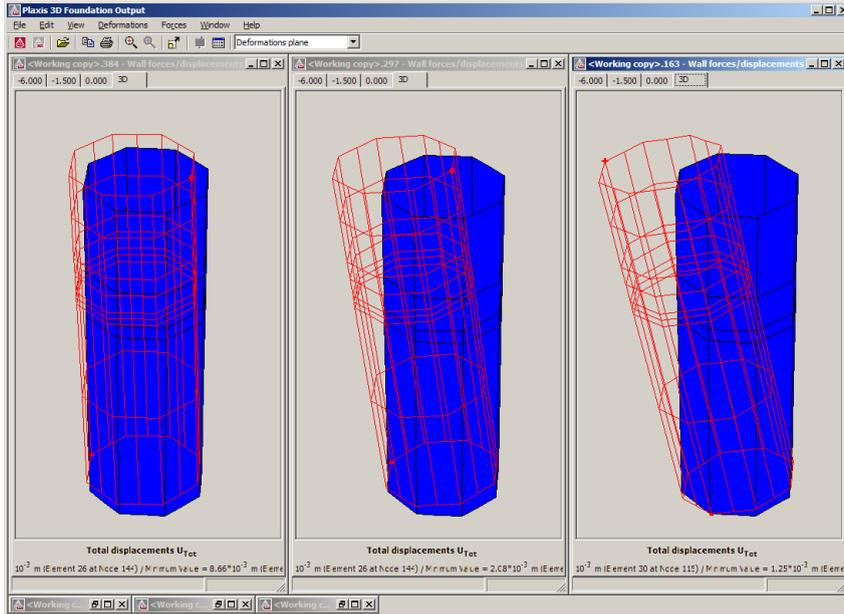

Figure 6.4 Output for three phases tiled vertically
- Select *Tile vertically* from the *Window* menu. The results from the three phases will be shown next to each other (see Figure 6.4).